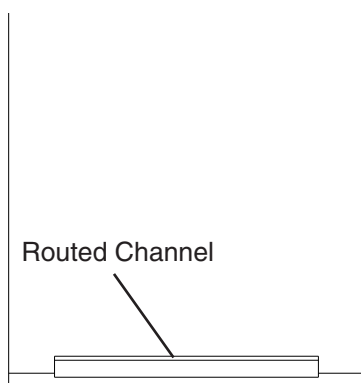

Fig. 1
- 1) Rout a channel at the bottom of the overlay panel to the proper dimensions. See "(C) Routed Area" in the specification diagram and Fig. 1.